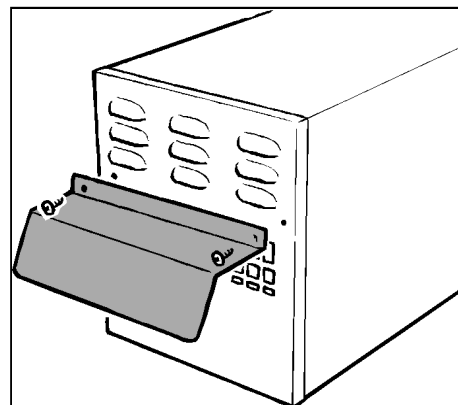

Figure 16 Weather Shield Installation
9.1 Fit the weather shield and guard to the back of the flue unit as detailed below (see figures 16 & 16a).
9.1.3 Place the weather shield in position aligning the holes in the shield with those at the sides of the end plate. Secure with the two screws previously removed. see figure 16.